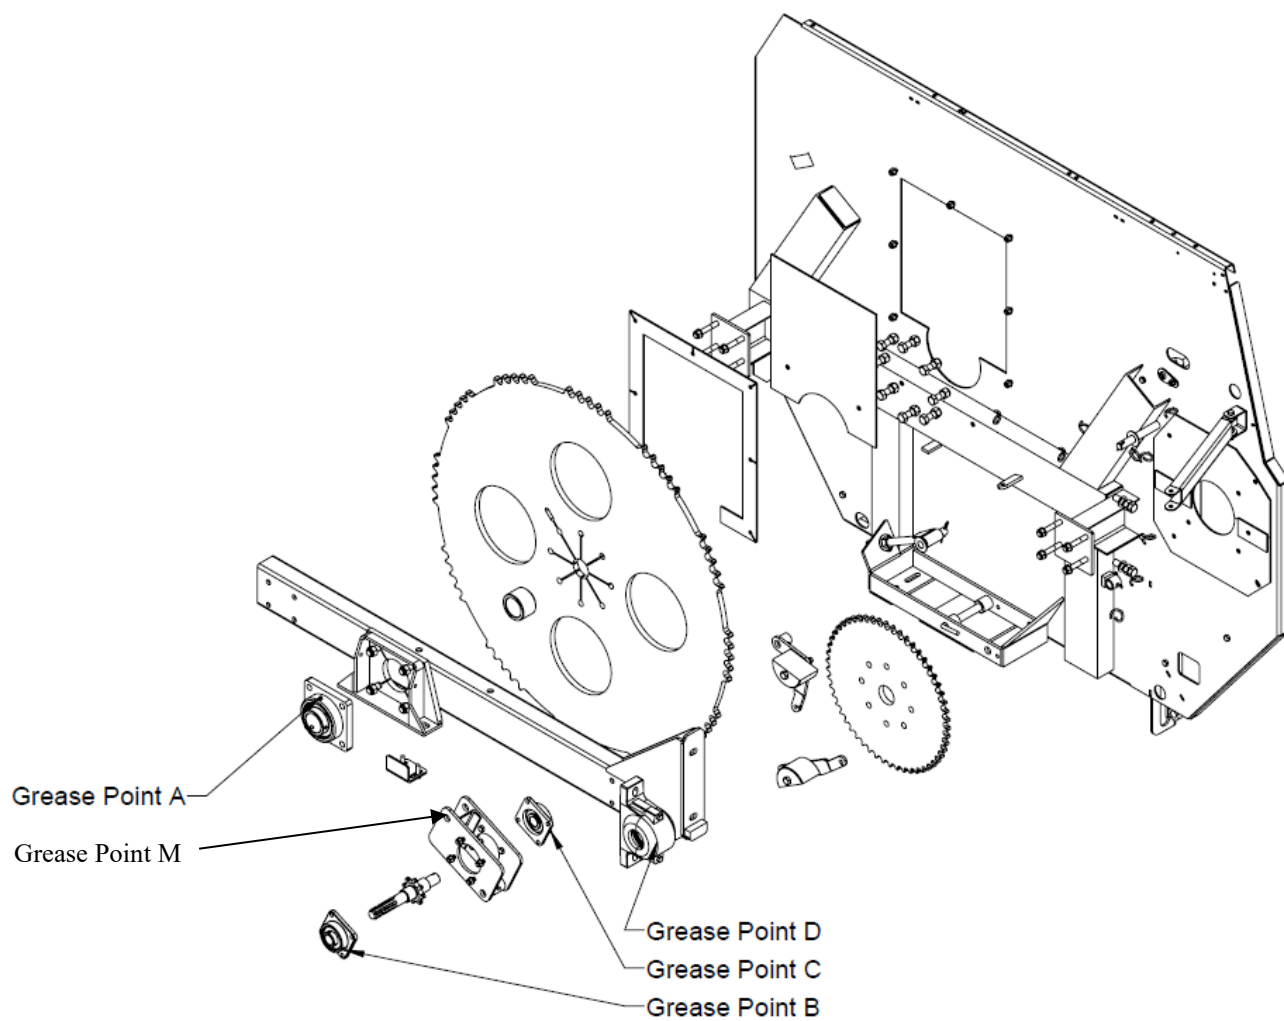

Figure 11: Front grease points
- a. The main rotor bearing at the front of the KEENAN Machine (A, figure 11).
- b. Two main bearings on the front and rear of the input drive shaft (B & C, figure 11).
- c. The auger bearing at the front of the KEENAN Machine (D, figure 11)
- d. Grease fitting in pivot bush on gearbox pin (m, figure 11)